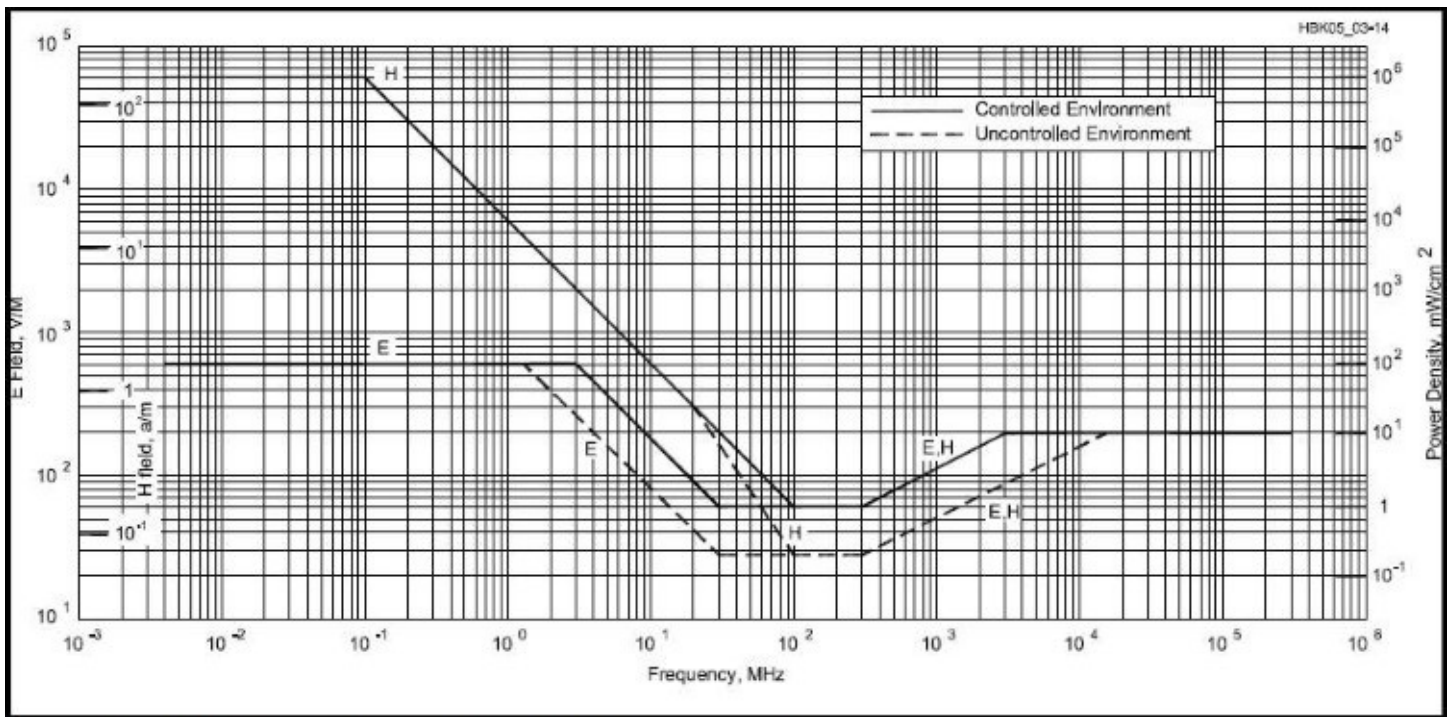

Figure 4.1 – 1991 RF protection guidelines for body exposure of humans.
The graph in **Figure 4.1** depicts the 1991 IEEE standard (which is still used as the basis of FCC regulation). It is necessarily a complex graph, because the standards differ not only for controlled and uncontrolled environments but also for electric (E) fields and magnetic (H) fields. Basically, the lowest E-field exposure limits occur at frequencies between 30 and 300 MHz. The lowest H-field exposure levels occur at 100-300 MHz. The ANSI standard sets the maximum E-field limits between 30 and 300 MHz at a power density of 1 mW/cm^2 (61.4 V/m) in controlled environments — but at one-fifth that level (0.2 mW/cm^2 or 27.5 V/m) in uncontrolled environments. The H-field limit drops to 1 mW/cm^2 (0.163 A/m) at 100-300 MHz in controlled environments and 0.2 mW/cm^2 (0.0728 A/m) in uncontrolled environments. Higher power densities are permitted at frequencies below 30 MHz (below 100 MHz for H-fields) and above 300 MHz, based on the concept that the body will not be resonant at those frequencies and will, therefore, absorb less energy.